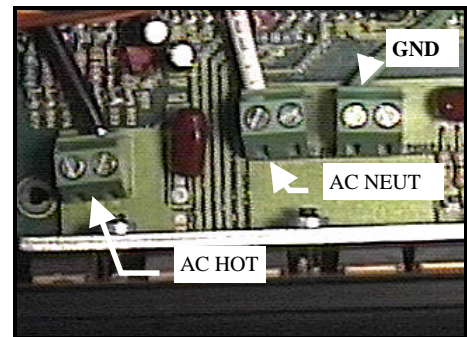

Figure 9A. AC Output Terminal Block
- d) Connect the ground lead of your AC cable to the internal ground lug on the rear panel of the PROwatt 800. Strip the hot and neutral leads of your AC cable 1/4 inch (6mm) and connect to the AC output terminal blocks on the PROwatt 800 circuit board (labeled " AC NEUT" and "AC HOT", in Figure 9A). Check carefully that you have maintained correct polarity (see below) and that there are no loose strands of wire. Make certain that the ground lead, which may be a bare wire, is cut as short as possible and is not touching any component within the PROwatt.
The AC output of the PROwatt 800 has hot, neutral, and ground conductors. Figure 9A shows the internal terminals for the hot, neutral, and ground conductors. When connecting to the AC wiring, connect the hot (black) wire to the hot terminal and the neutral (white) to the neutral terminal. Connect the ground wire to the internal ground lug in the PROwatt. Connect the other end of the ground wire to a grounding point on a junction box or breaker panel.